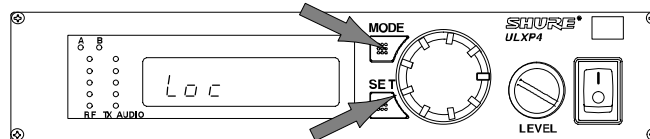

FIGURE 42
1. Hold down the SET button and press the MODE button three times. “Loc” will appear on the display. See Figure 42.